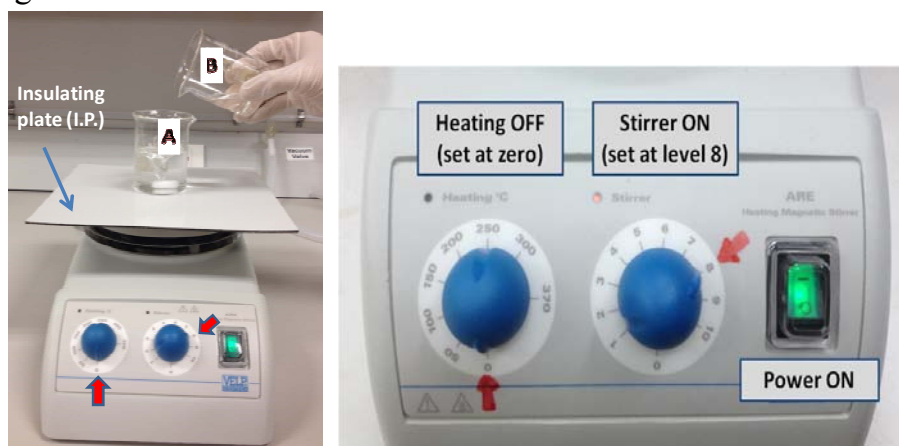

Figure 1. The apparatus employed for kinetic study of the clock reaction.
- The heating function of the heating magnetic stirrer must be **TURNED OFF** (as shown in Figure 1 below) and be sure that the stirrer plate is not hot before starting your experiment. Put the insulating plate (labeled I.P.) on top of the stirrer plate for added insulation.
Solution # A (containing $\text{Na}_2\text{S}_2\text{O}_3$, KI, KNO_3 and starch) is first placed in the beaker and is stirred using the magnetic bar. The rate of stirring is set at level 8 as indicated in Figure 1. Solution #B (containing $\text{Fe}(\text{NO}_3)_3$ and HNO_3) is quickly added into solution #A and *the stopwatch is simultaneously started. The time is recorded at the moment the solution suddenly turns dark blue.* The temperature of the solution is recorded using the digital thermometer.